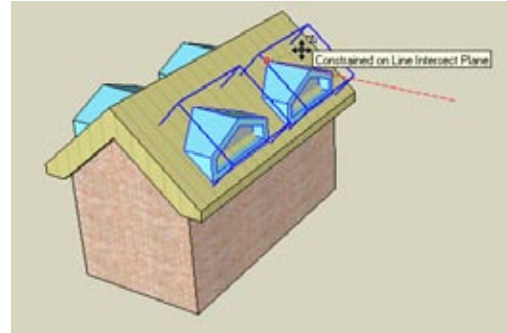

Figure 5-51
7. To move the copied dormers back to the roof, move them by a peak point, lock the red direction, and click the roof face (Figure 5-51).